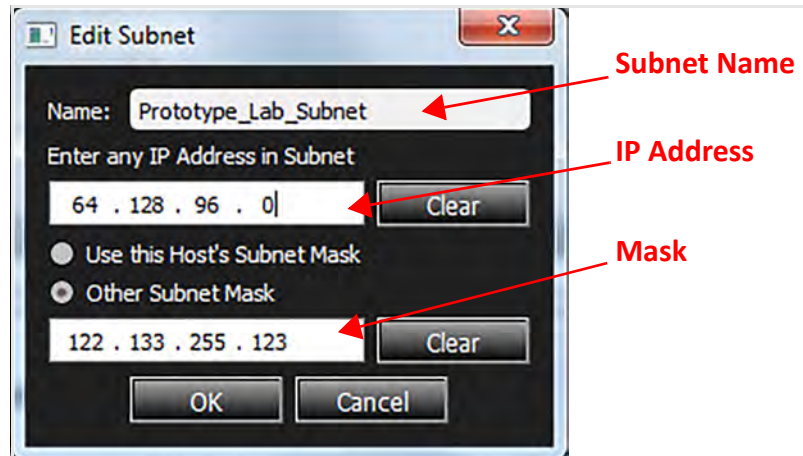

Figure 2.74: Update Subnet
- b. Click **Add** and enter the new Name, Address, and Mask (Figure 2.74).